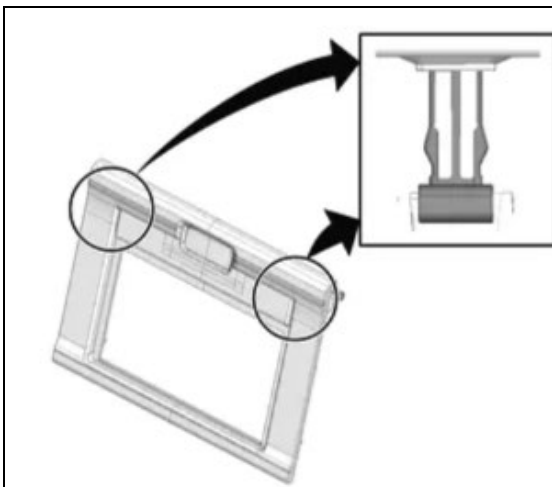

Figure 3
7. Squeeze the white plastic clips holding the bezel on the center cluster with needle nose pliers to completely remove the bezel. (See Figures 3 and 4.)